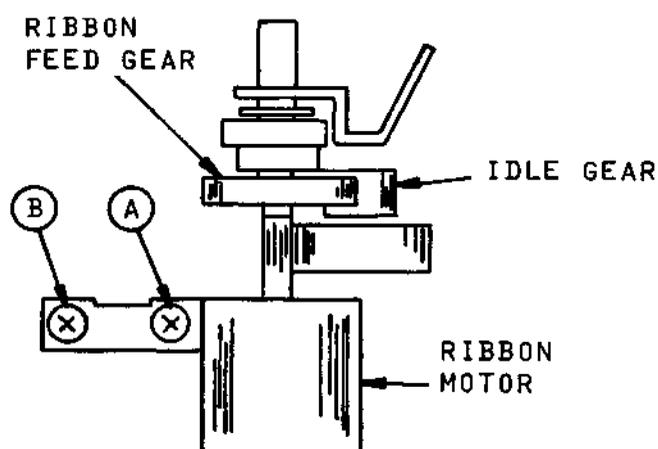

Figure 5-7 Ribbon Feed Gear Adjustment
- Refer to Figure 5-7. Check backlash between idle gear and ribbon feed gear for tolerance of  $0.05 \text{ mm}$  to  $0.2 \text{ mm}$  ( $0.002 \text{ inch}$  to  $0.008 \text{ inch}$ ).
- b. Adjust backlash by turning screws A and B (Figure 5-7).